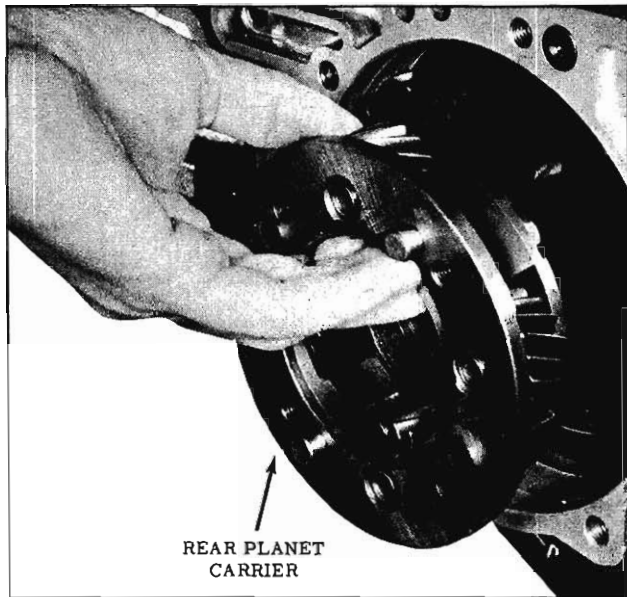

Fig. 6-97 Installing Rear Carrier
18. Install rear planet carrier through front unit sun gear shaft from rear of transmission. (Fig. 6-97)